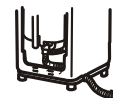

Figure 3
- 3.Extend the drain hose from the right side of base, fix the drain hose onto the base with the drain hose frame, and screw down the screws, put the hang hole onto the drain hose ,then hang up the drain hose.(As indicated in Figure 3)